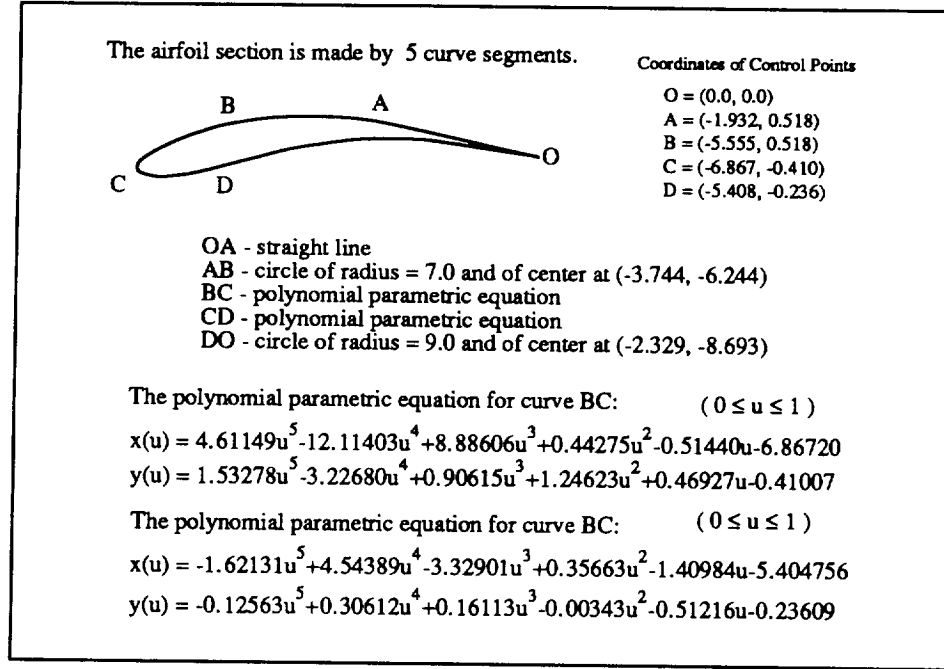

Figure 4: The Geometry of An Airfoil
**Example 3: An airfoil in rectangular domain.** The geometry of the airfoil is shown in Figure 4. This example problem shows the generation of a relatively complex boundary. The data entered from the keyboard, the echo file, and the finite element mesh are shown in Appendix III.